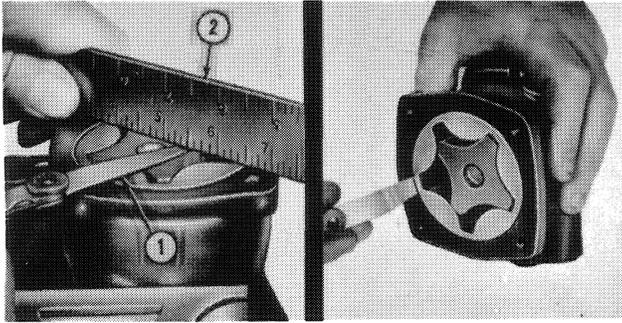

Figure 32
4. With the rotor and shaft assembly installed in the pump body, place a straight edge over the rotor and shaft assembly and the pump body. Measure the clearance between the straight edge and the inner rotor and shaft assembly and between the straight edge and the outer rotor, Figure 32. If the measurement is not within specifications, see page 80, install a new rotor assembly.